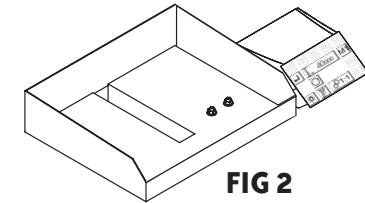

FIG 2
2. Determine a suitable mounting location: front, back, left, or right. See FIG 2